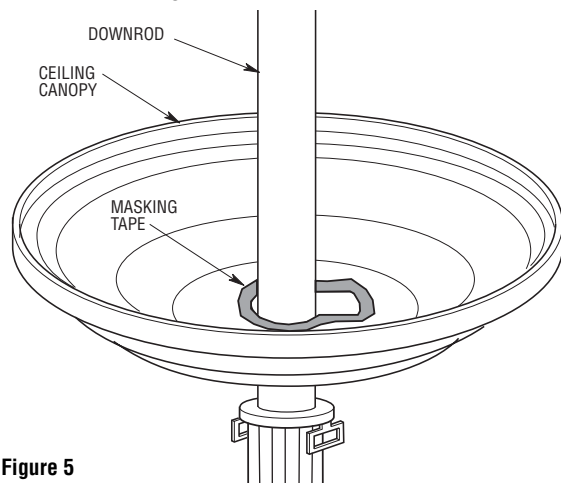

Figure 5
NOTE: Apply masking tape to the entire edge of the ceiling canopy center hole to prevent accidental scratching of downrod surface (Figure 5).
- 9. Route the motor lead wires and support wire through the ceiling canopy (Figure 5). Use extreme caution not to scratch the downrod with the ceiling canopy during installation.